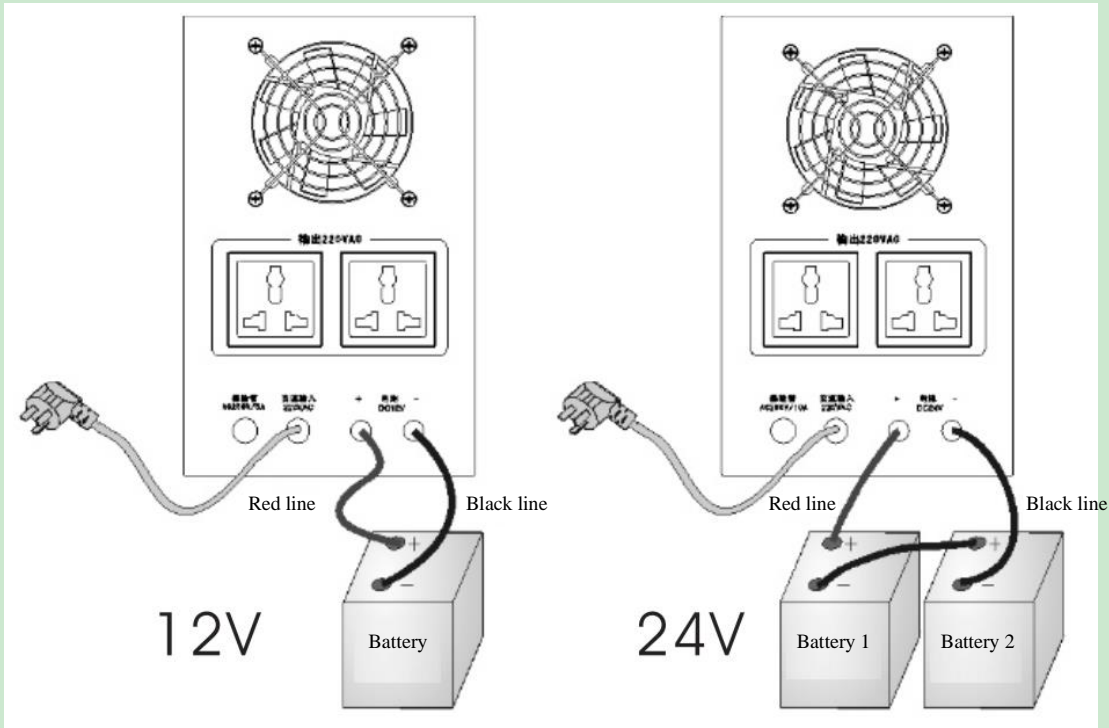

Fig. 3-1 NB-500 and NB-1000 battery wiring
- 2) One end of the battery connecting cable of NB-500 and NB-1000 has been fixed on the device, and the other end is connected to the battery pack through two open wires, as shown in Figure 3-1.